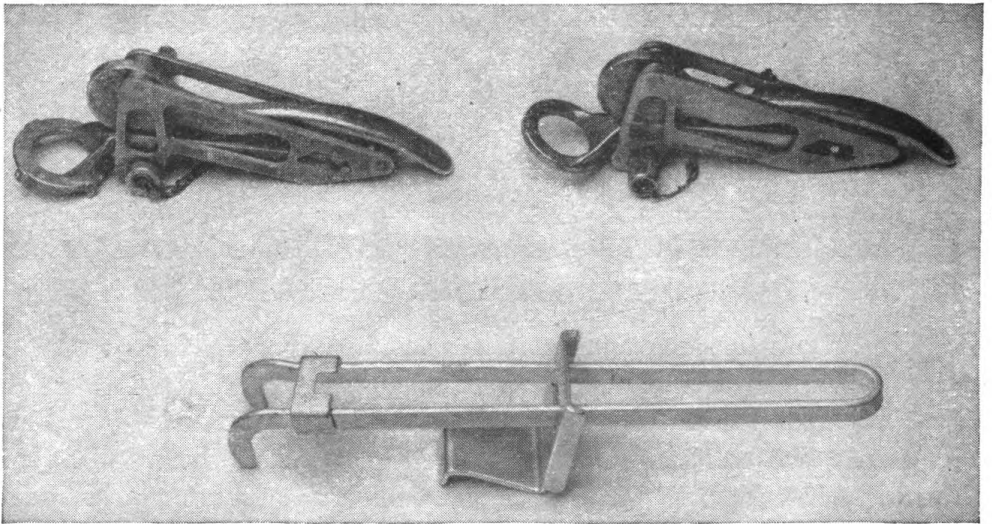
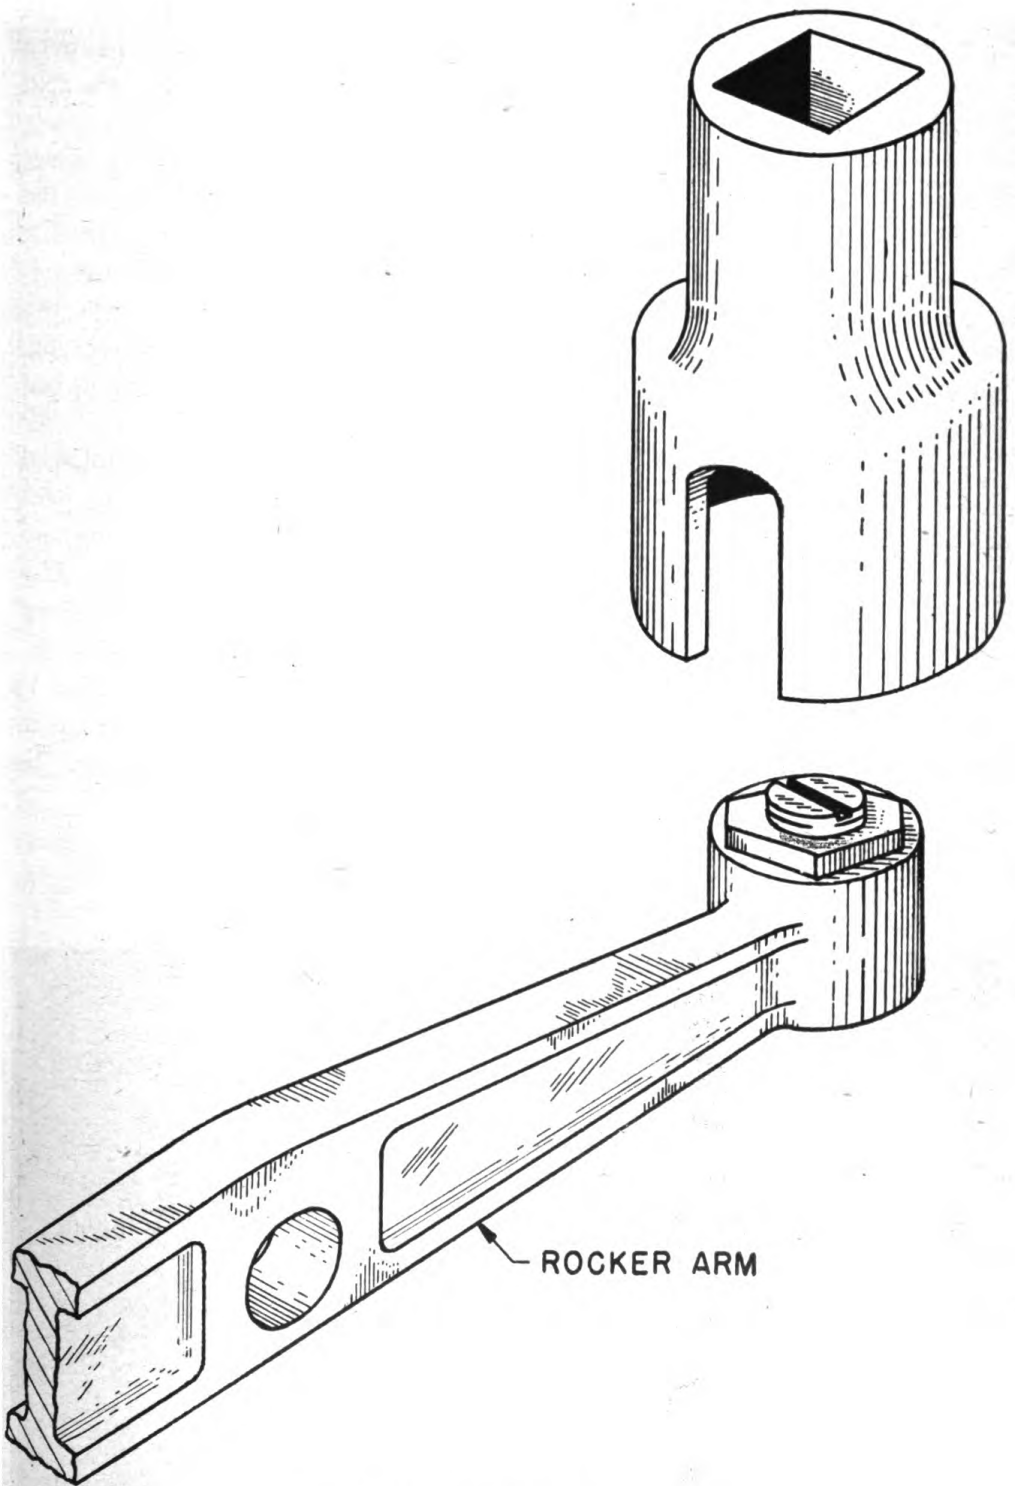

Figure 31. Valve-spring depressors.
Figure 32. Valve-spring depressors.
*k. VALVE-SPRING DEPRESSOR.* (1) There are several types of valve-spring depressors (also called valve-spring compressors). Three of the different types are shown in figure 31. They are used to compress the valve springs when inserting or removing the valve-spring split locks.
(2) Valve springs are very strong. If the depressor slips while it is being used, a painful injury is likely to result. Therefore, the mechanic should make certain the valve-spring depressor is fitted properly when he is using it.
*l. ROCKER-ARM DEPRESSOR.* (1) The rocker-arm depressor is shaped like a large socket with a notch milled in one side. The notch fits over the rocker arm. The depressor is used to depress the valve spring and rocker arm when removing a push rod and push-rod cover. (See fig. 32.)